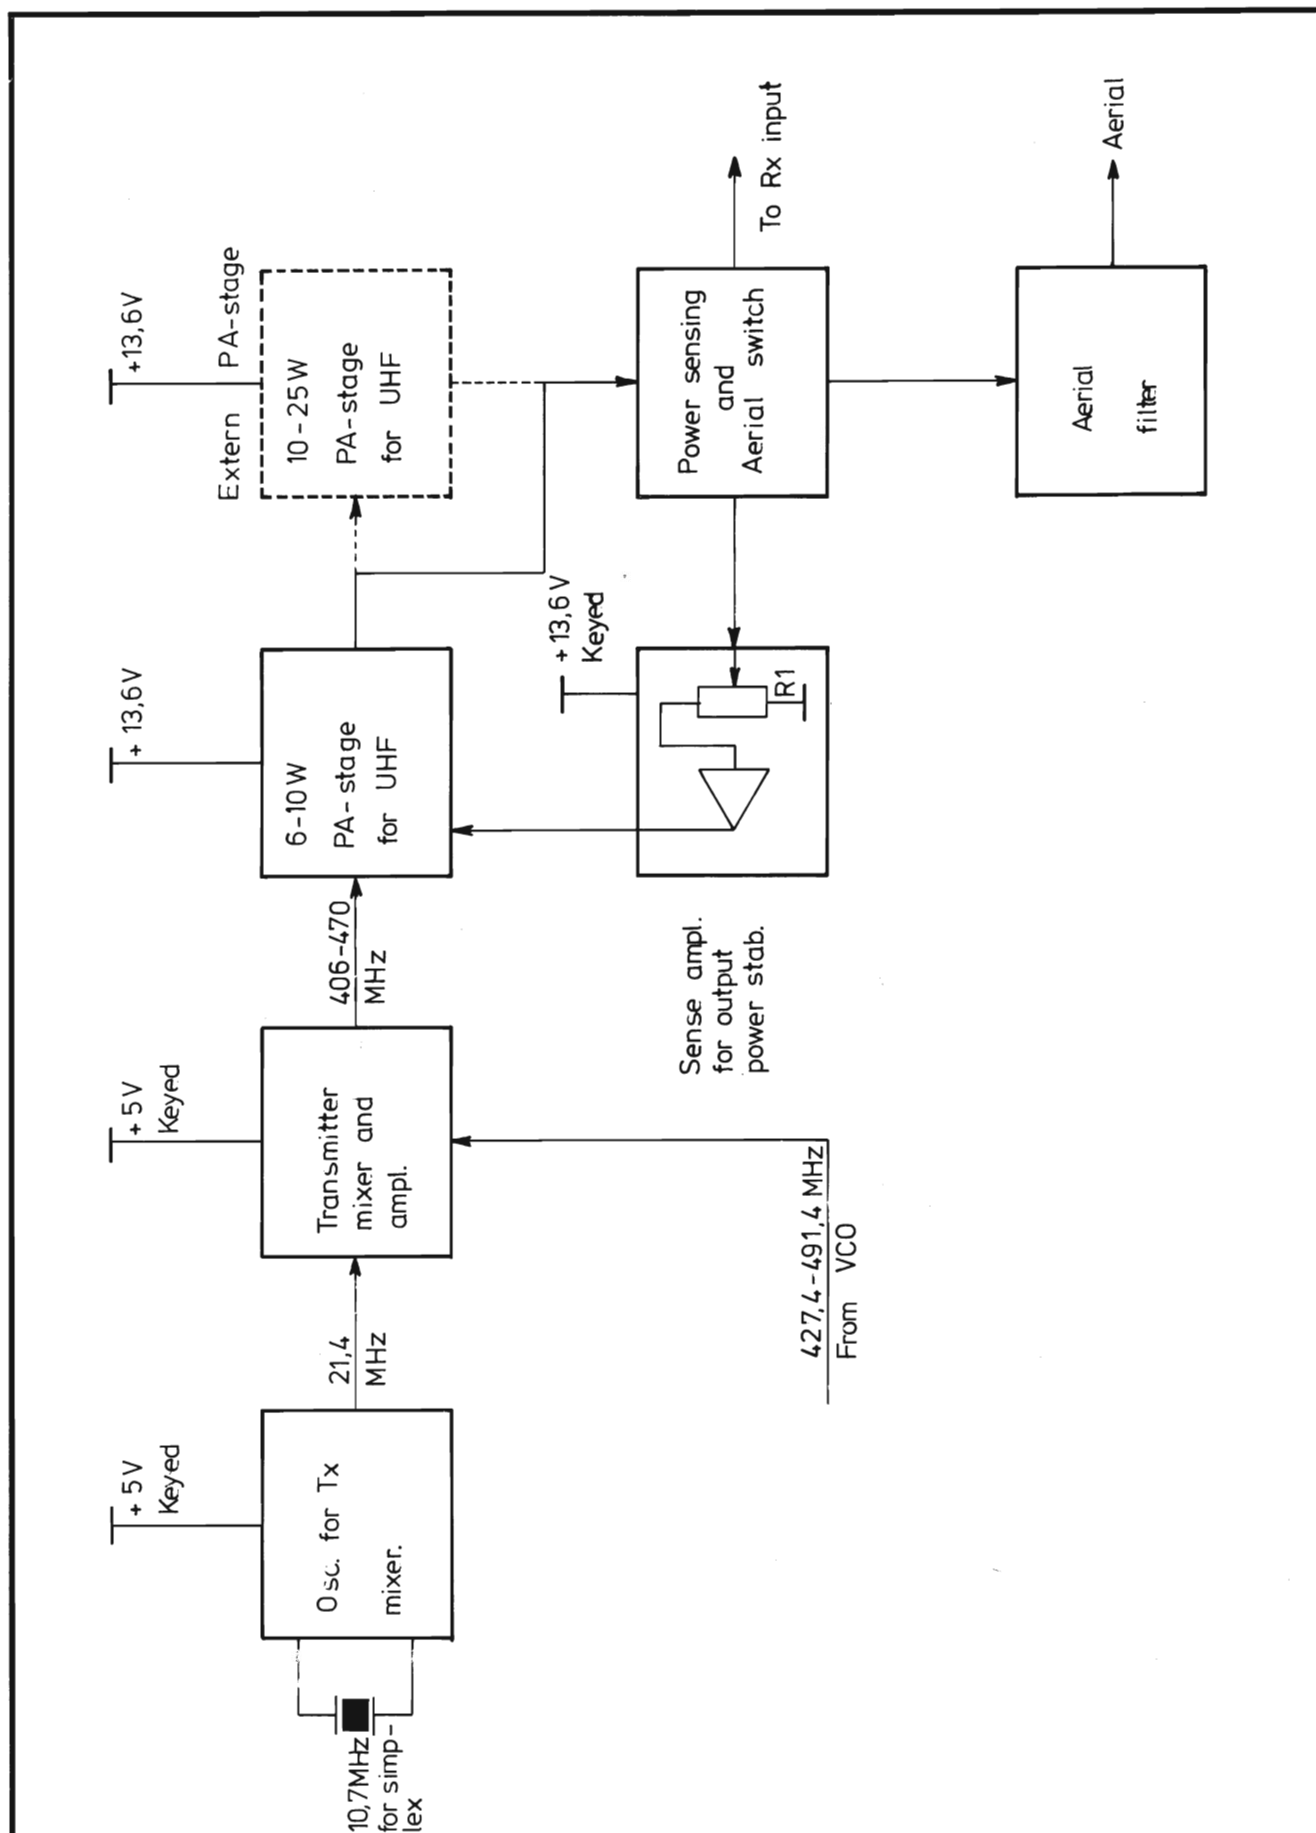

Fig. 2
TRANSMITTER (FIG. 2)
If the VCO-frequency $F_o = F_r$, the comparator gives out a DC-level proportional to the phase difference between F_o and F_r (Fig. 2). We have $V_1 = K_1 \times (\theta_r - \theta_o)$ where K_1 is a constant. When there is a frequency difference between F_o and F_r , V_1 will be low for F_o greater than F_r and high for F_o less than F_r .
This filter removes the ripple on V_1 (Fig. 2) and determines the dynamic behaviour (stability, step response) of the loop.
F_o is greater than F_r . The comparator output voltage V_1 will contain the normal ripple with frequency F_r and a beat note, but the mean DC level ($= V_2$ after the filter) will be low (Fig. 2). Thus the VCO frequency will decrease and at the time F_o reaches F_r the loop will go in lock. Now $F_o = F_r$ and the phase difference will assume a level for V_2 sufficient to hold the VCO frequency in lock with F_r . If the tuning of the VCO is changed (such as by varying the value of the tuning capacitor) the frequency F_o from the VCO will attempt to change. This will result in a change in phase angle between F_o and F_r , resulting in a change in DC-level of V_1 which will act to maintain frequency lock. In this way tuning of the VCO will change the ripple and the DC-level on V_1 but as long as lock is maintained F_o will be equal F_r .
The two cascaded counters IC 2 and IC 3 count down from 168. When the counters reach zero a borrow pulse is generated and used to preset the number 168, thus starting a new count cycle. The very narrow borrow pulses with a repetition rate of 25 (20) kHz are used as input to the frequency-phase comparator IC 4. The comparator output voltage V_1 (Fig.2) can be seen on a test point TP 1. To suppress the 25 (20) kHz ripple on the comparator output voltage Q 3 is connected as an active lowpass filter IC 5 is for DC-amplification.